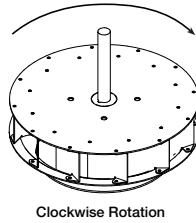

Figure 9
5. Check wheel rotation (viewing from the shaft side) by momentarily energizing the unit. Rotation should be clockwise as shown in Figure 9 and correspond to the rotation decal on the unit.
3. Start the fan and shut it off immediately to check rotation of the wheel with directional arrow in the motor compartment. See Figure 9 on page 6.